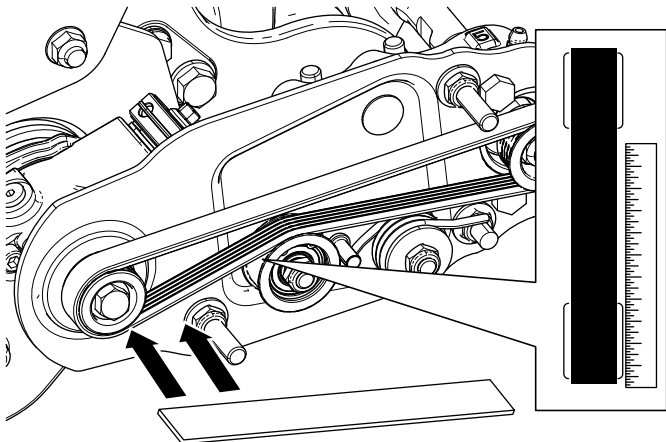

Figure 21
1. Lay a straightedge along the outer face of the drive pulley (Figure 21).